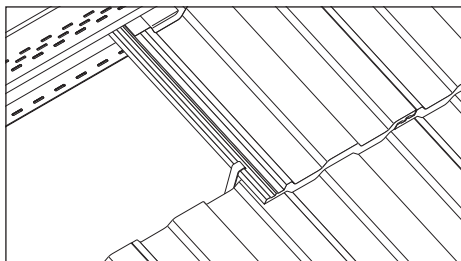

Fig. 5 – Clip top course interlocking tiles
- 7 Insert tile with filler unit into batten section by lifting top flange slightly until nibs engage over upstand and tile is held securely. (The ridge filler unit for Plain/Modern has raised lugs which fit beneath circular beads on batten sections) (Fig. 5).
- 8 Ensure each tile is mechanically fixed by using a standard tile clip located over side lock and nailed to top edge of second course tiling batten (Fig. 5).